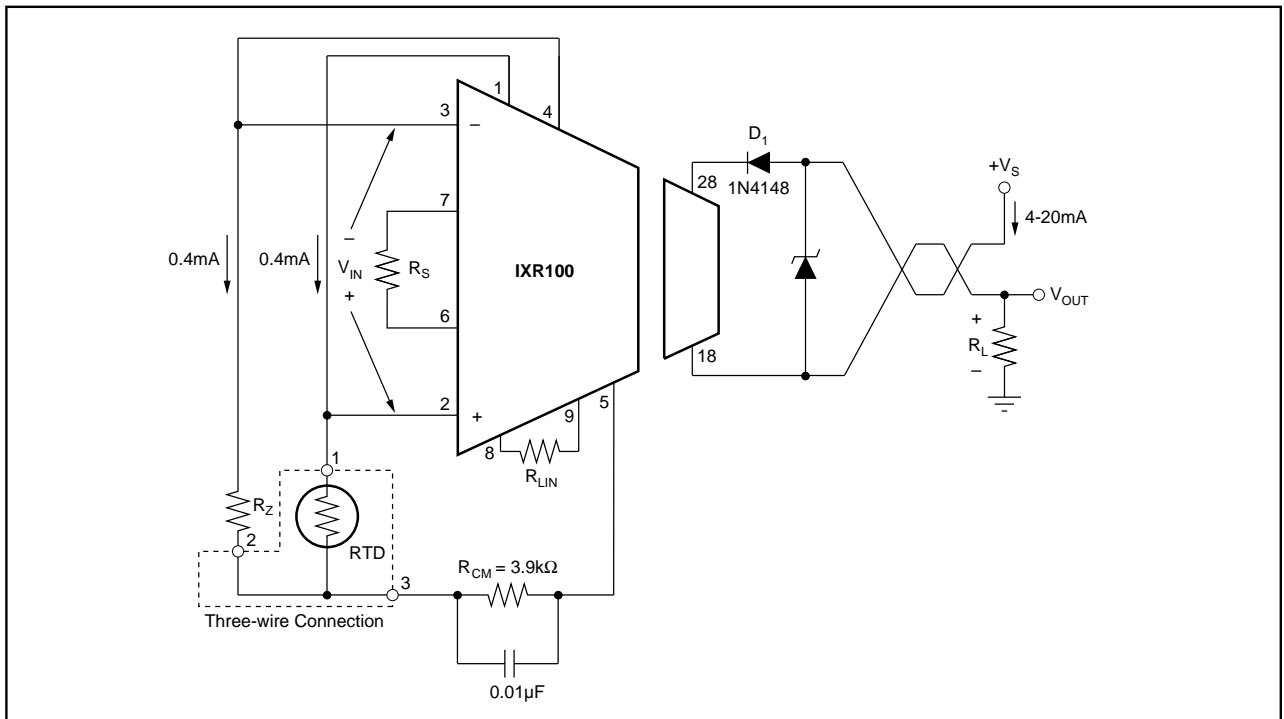

FIGURE 7. Basic 3-Wire RTD Connection for Increase-Increase Action.
7. It is recommended that a reverse polarity protection diode be used. This will prevent damage to the IXR100 caused by a transient or long-term reverse bias between pins 18 and 28. This diode can be connected in either of the two positions shown in Figure 7, but each connection has its trade-off. The series-connected diode will add to the minimum voltage at which the IXR100 will operate but offers loop and device protection against both reverse connections and transients. The reverse-biased diode in parallel with the IXR100 preserves 11.6V minimum operation and offers device protection, but could allow excessive current flow in the receiving instrument if the field leads are accidentally reversed. This is particularly
In three-wire applications, shown in Figure 7, the RTD and R_Z lead arrangements set up a pseudo-Kelvin connection to the RTD. This occurs because the currents through the three wires are set up in opposing directions and cancel IR drops in the RTD leads. The current sources are both modulated
In some applications of the IXR100, the RTD will be located remotely. In these cases, it is possible for open circuits to develop. The IXR100 responds in the following manner to breaks in each lead. The following connections refer to the RTD connections shown in Figure 7.